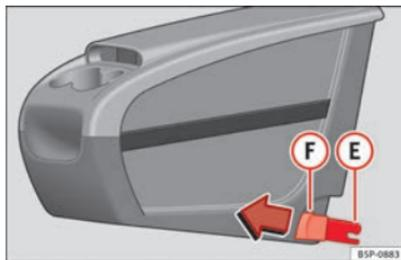
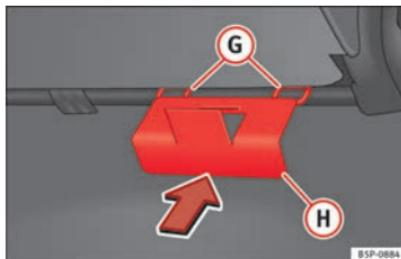

Fig. 107 Mobile storage compartment. Installation
Fig. 108 Mobile storage compartment mounting plate
- Fit the mobile storage compartment mounting plate **(H)** ⇒ Fig. 108 from the inside of the vehicle, through the rear part of the seat. It should be fitted between the backrest and the seat, in the central seat area.
- Set both mounting pieces together (E) ⇒ Fig. 107, with both mounting rings (G) ⇒ Fig. 108 and press hard until both the clips completely connect with the rings.
- Pull each of the buttons ⇒ Fig. 107 (F) on the clips (red buttons) forwards, until they snap out of place.